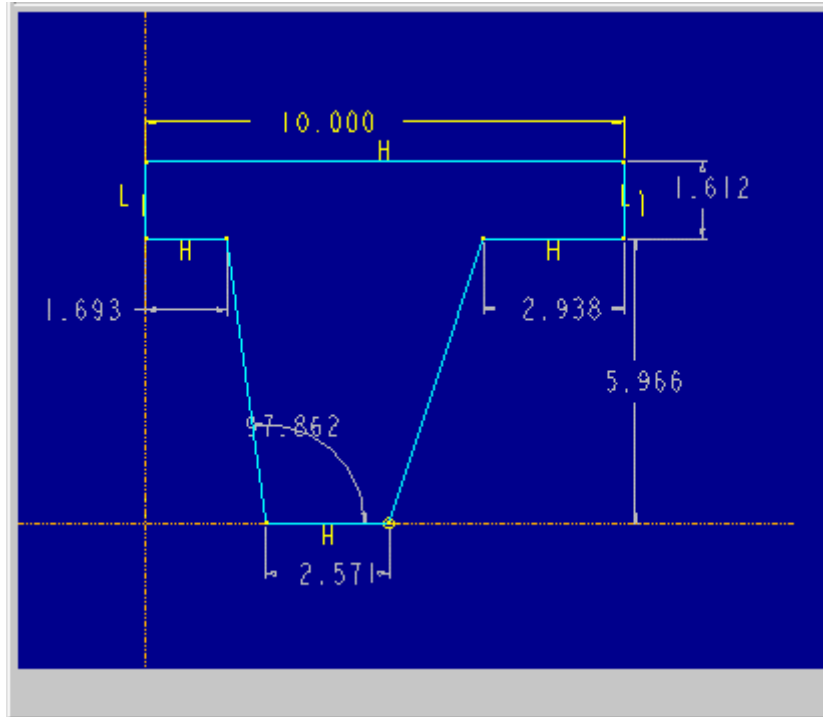

Figure 2
- To begin, the upper right entity will be made vertical using **Sketch, Constrain, Vertical**. A 'V' symbol will be generated and placed next to the entity. Then the two vertical entities will be given **Equal Lengths** from the CONSTRAINTS dialog box. A 'L₁' symbol will be generated on each corresponding entity. Note that in the Figure 2, the 'L₁' is covering the 'V' symbol on the upper right entity.